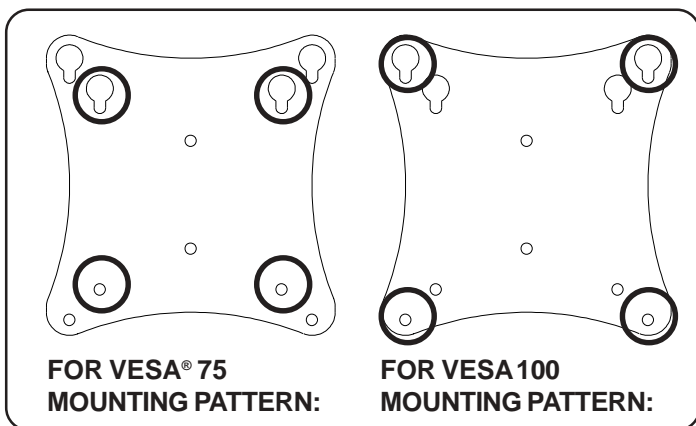

fig. 1.1
**1** Insert two M4 x 12 mm screws (**AA**) into top two holes of screen, leaving approximately 1/4" of exposed thread. Hook screws onto keyslots of adapter plate as indicated in figures 1.1 and 1.2.